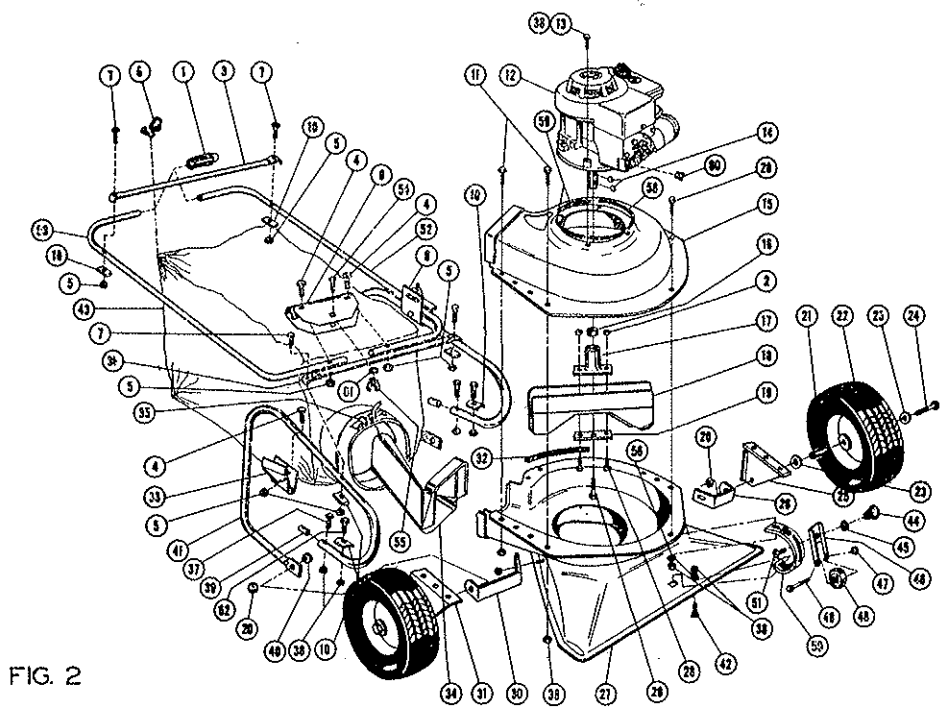

FIG. 2
2. Remove upper handle parts from carton. Place handle bracket, Ref. 8, Fig. 2, over the lower end of handles, Ref. 52 and 53 and secure in place with bolts, Ref. 7. Run $\frac{1}{4}$ " thin nuts, Ref. 5, onto bolts, (do not tighten). Next, place the cross brace, Ref. 3, Fig. 2, on upper part of handles, insert $\frac{1}{4} \times 1\frac{1}{4}$ " bolts, Ref. 4, apply clamps, Ref. 10, and run $\frac{1}{4}$ " thin nuts, Ref. 5 onto bolts loosely. Place assembly with Ref. 8, over cross brace, as shown on front cover. Drop handles into channel locks, Ref. 9 and 33, which are assembled on machine. Insert $\frac{1}{4} \times 1\frac{1}{4}$ " carriage bolt, Ref. 54, through (2) square holes in bracket, apply $\frac{1}{4}$ " spring lockwasher and run on wing nut, Ref. 55. Close cams on channel locks. Tighten four nuts, Ref. 5, and handle is ready to use.
3. The bag hooks, Ref. 6, Fig. 2, are taped together and placed in bag. Remove these and insert them in the bag support straps. Install the bag as shown in Fig. 2, by placing the four bag hooks over the cross bars.
6. Assemble roller and Fork assembly to front roller support, Ref. 50, Fig. 2, by inserting carriage bolt, Ref. 51, Fig. 2, into slot from the back side. Place Fork over carriage bolt and align with roller support. Place lock washer, Ref. 45, Fig. 2, over carriage bolt; now install adjusting knob, Ref. 44, Fig. 2, on carriage bolt. Adjust roller to maintain desired height of Scavenger housing and tighten adjusting knob.